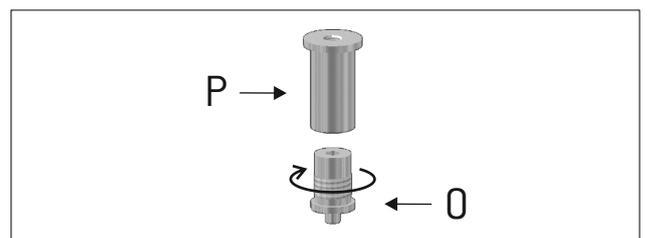

Figure 14
14 - Unscrew the gripper (O) from the gripper supports (P). Figure 14.